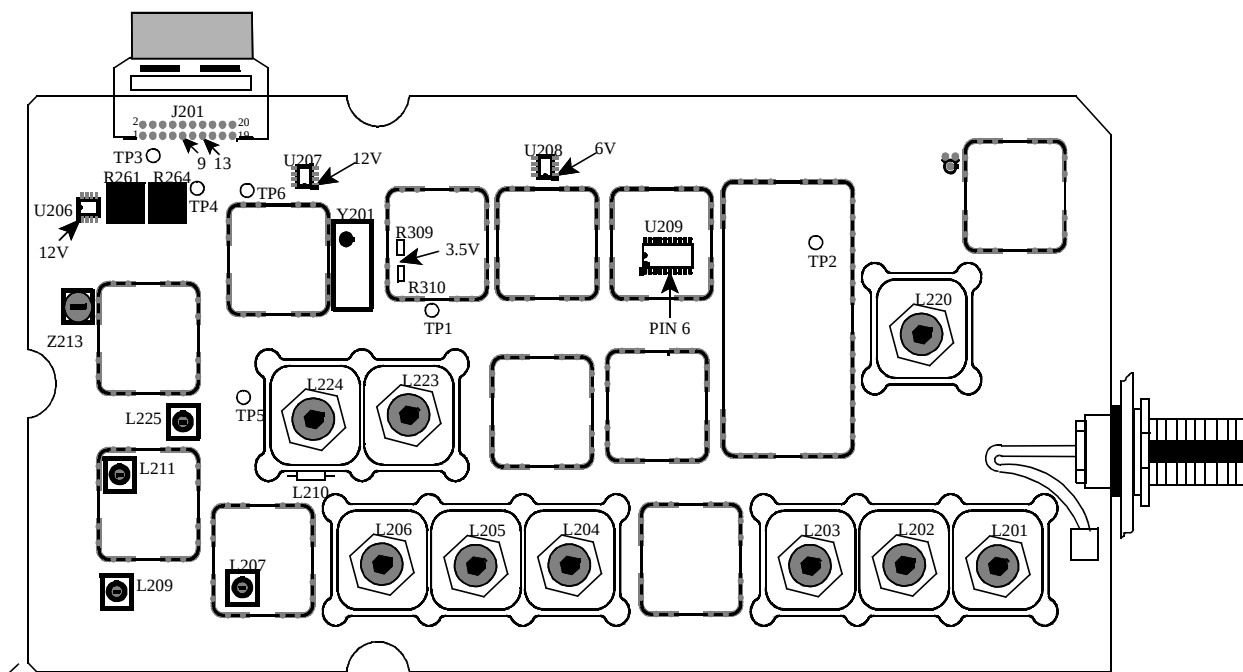

Figure 4-28 800 MHz RECEIVER ALIGNMENT POINTS (REVISION 5 OR EARLIER)
4. Apply power to the Receiver by plugging the 20-pin cable from the Interface Board into J201 (see Figure 4-28).